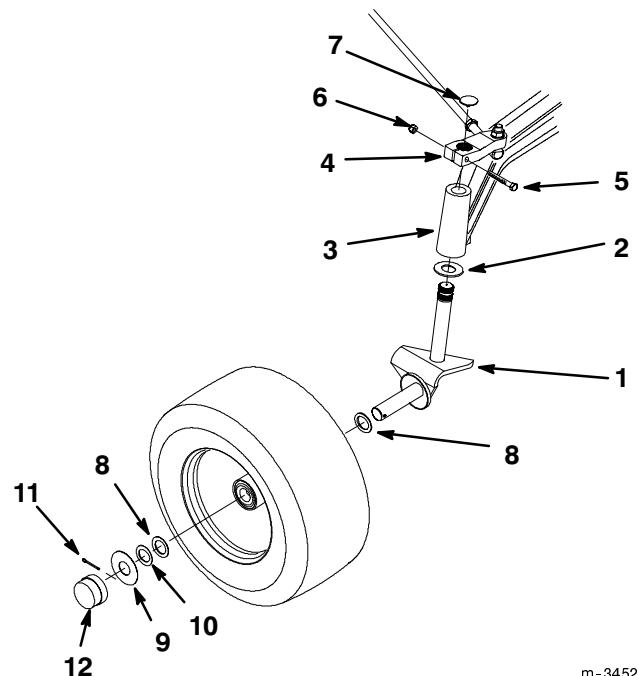

Figure 4
- Install a 1.56" O.D. x .06" thick unplated thrust washer onto the splined shaft of the R.H. wheel spindle (Fig. 4).
- Install the splined end of the R.H. spindle through the R.H. end of the front axle and into the steering arm (Fig. 4).
- Secure the spindle shaft to the steering arm with a 5/16"-18 x 2.25" bolt and 5/16" nut (Fig. 4). Torque the nut to 230 \pm 25 in-lbs.
- Insert a 1.50" O.D x .05" thick plated wheel washer onto the R.H. spindle (Fig. 4).
- Install a front wheel onto the R.H. spindle with the valve stem facing inward (Fig 4).
- Insert another 1.50" O.D x .05" thick plated wheel washer onto the R.H. spindle (Fig. 4).
- Install a 2.50" O.D x .05" thick hub cap washer onto the spindle. Now insert a .156 x 1.50" long cotter pin into the hole in the spindle (Fig. 4).
- Install a hubcap onto the hubcap washer until it snaps in place (Fig. 4).
14. Insert a spindle cap into the steering arm (Fig. 4).